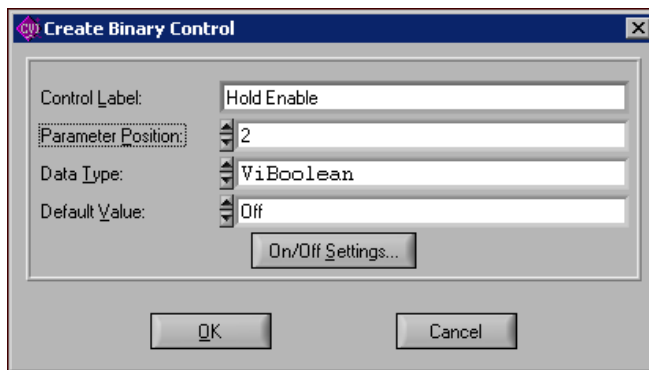

Figure 5-18. Create Binary Control Dialog Box
- b. Complete the `Create Binary Control` and `Edit On/Off Settings` dialog boxes as shown in Figures 5-18 and 5-19.